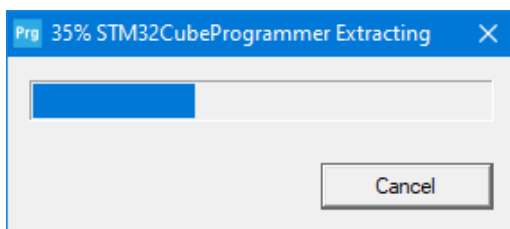
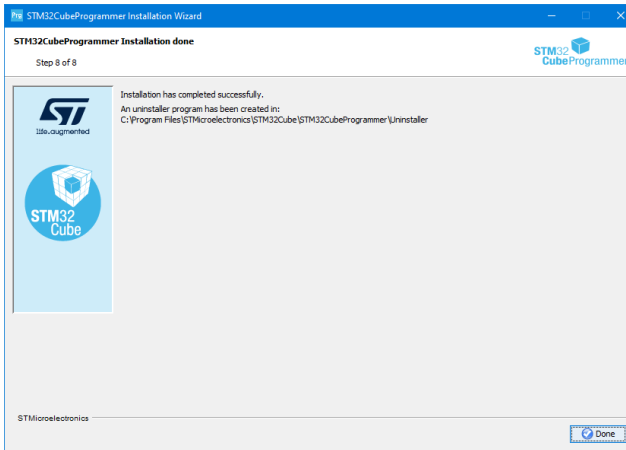

fig. 1 – Preparing to install
fig. 13 - Click Done
3. Double-click the executable *SetupSTM32CubeProgrammer_win64.exe*, to initiate the installation, and follow the on-screen prompts (from fig. 1 to fig. 13) to install the software in the development environment.